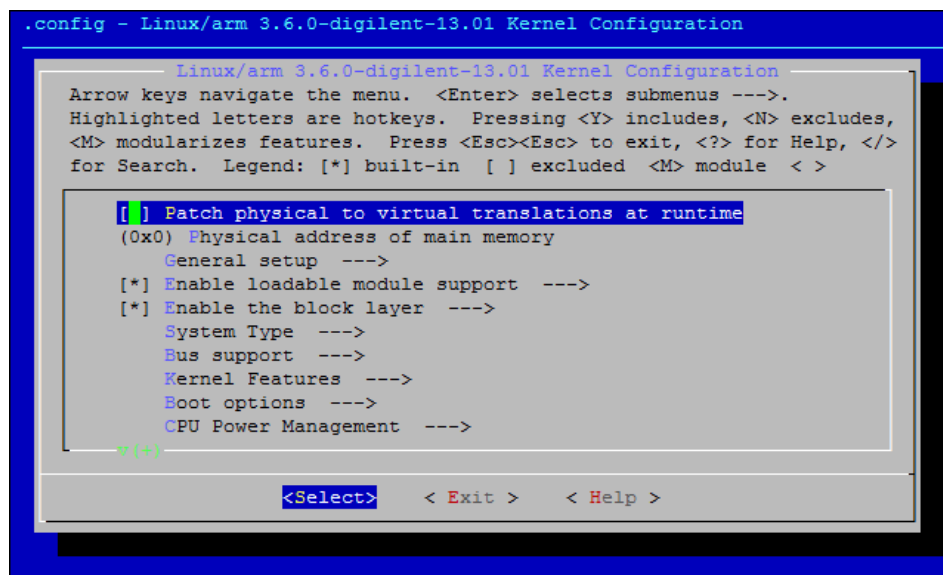

Figure 37. Linux Kernel Configuration Menu
**IV-3** We will change the configuration for PmodOLED driver. Change it from built-in driver to a loadable kernel module. To do this, we will start configuration menu for Linux kernel following Example 15. And configuration screen will show up in your terminal as Figure 37.